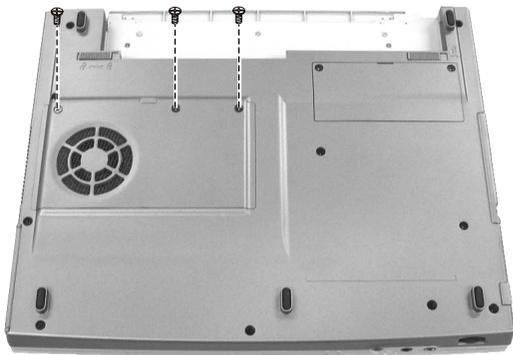

Figure 2-21 Remove the CUP cover
2. Put the system board upside down. Remove three screws fastening the CUP cover. (See Figure 2-21)